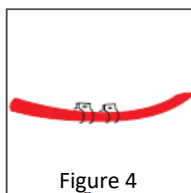

Figure 4
- a) Fix the two CO₂ hose clamps on the red CO₂ tube (See Figure 4).